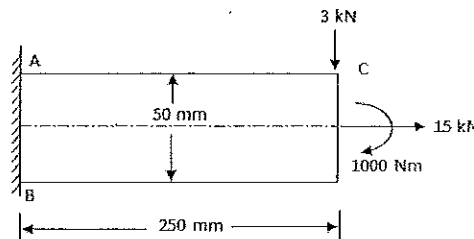

Fig.Q6
- The cantilevered shaft is subjected to vertical load of  $3kN$  at  $C$ , an axial pulling force of  $15kN$  and a pure torque of  $1000Nm$  as shown in Fig.Q6. The diameter of the shaft is  $50mm$  and the length is  $250mm$ . Calculate the maximum and minimum principle stresses and maximum shear stresses at points  $A$  and  $B$ . [15 marks]